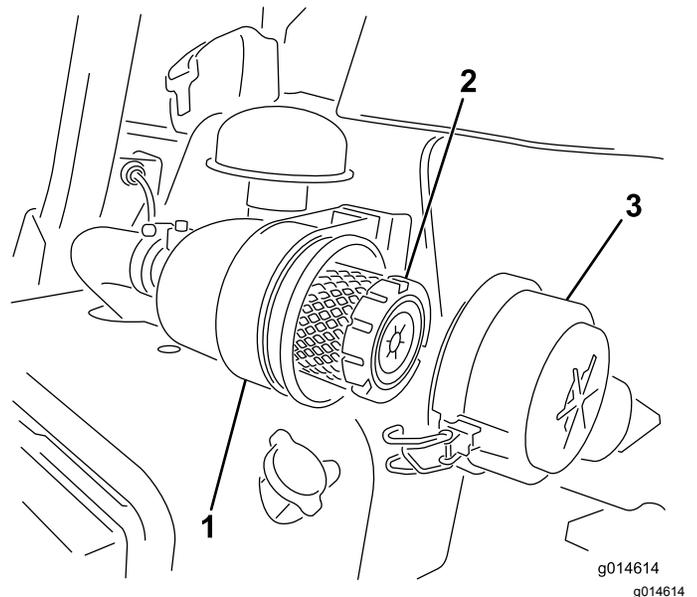

Figure 30
1. Release the latches securing the air-cleaner cover to the air-cleaner body (Figure 30).
7. Secure the latches (Figure 30).